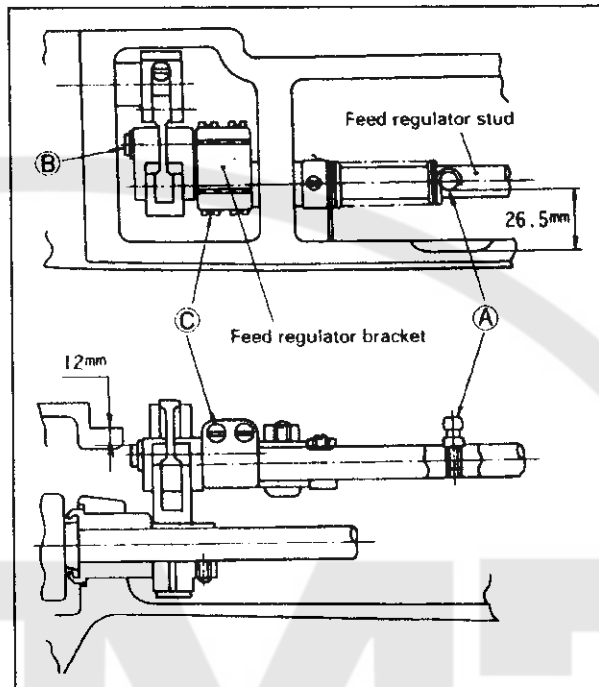

Fig.31
3) Installing the feed regulator bracket (Fig.31):
(1) Set the clearance between special screw "A" located on the regulator stud and the side wall of the machine arm to 26.5mm as Fig.31.
(2) With the feed regulator stud held as explained is step (1) above, adjust the feed regulator bracket. This adjustment should insure a clearance of 12mm between the periphery of pin "B" located on the feed regulator bracket and the top cover mounting face located on the arm. Tighten screw "C".